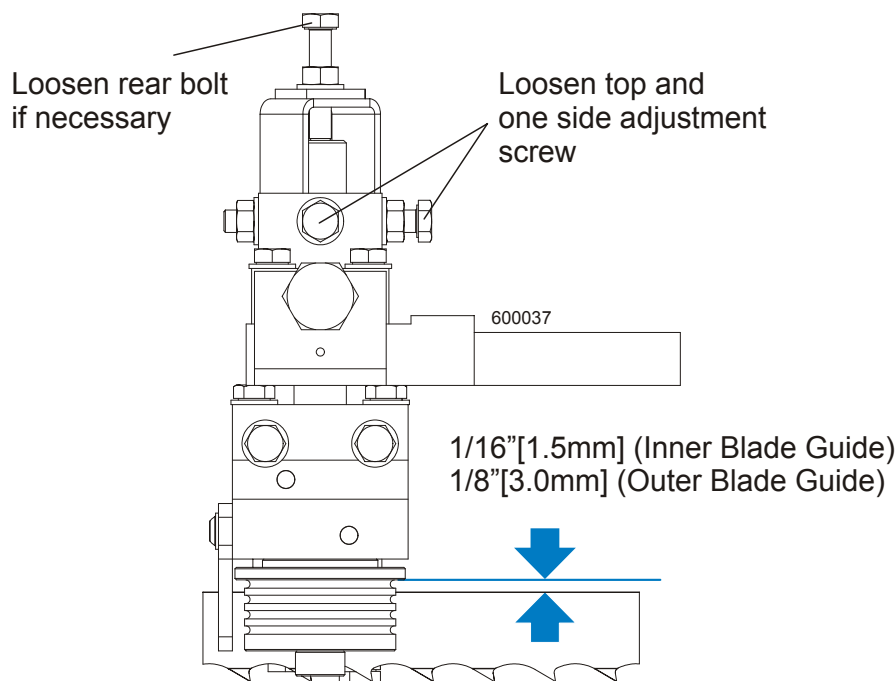

FIG. 5-37
**See Figure 5-37.** Loosen the top and one side screw shown and rear adjusting bolt if necessary. Tap the blade guide forward or backward until properly positioned. Retighten the screws and jam nuts.